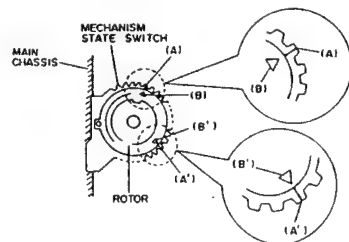

Fig. 3-1
2. PHASE MATCHING IN ASSEMBLY (Figs. 3-1, 3-2, 3-3, 3-4)
- 1) Align marks (A) and (A') on the mechanism state switch and marks (B) and (B') on the rotor. (See Fig. 3-1)